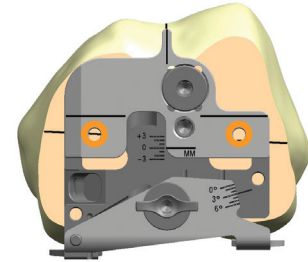

Figure 87
3. Once both the A/P and rotational measures are desirable relative to the anatomic landmarks, drill about a 1 inch (25mm) deep hole through each of the two holes in the drill guide (Figure 87).